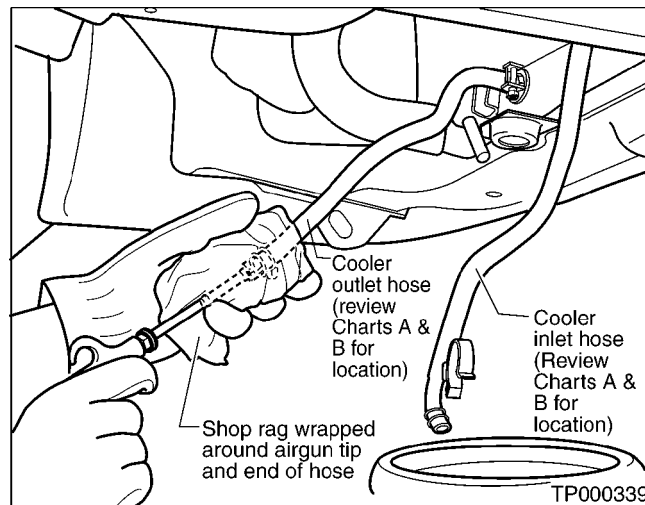

Figure 5
7. Insert the tip of an air gun into the end of the cooler Outlet hose (see Figure 5).
8. Wrap a shop rag around the air gun tip and end of the cooler Outlet hose (see Figure 5).